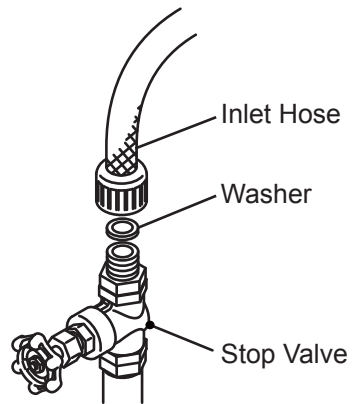

Fig. 22
- 4) Close the potable water supply line stop valve. See Fig. 22.